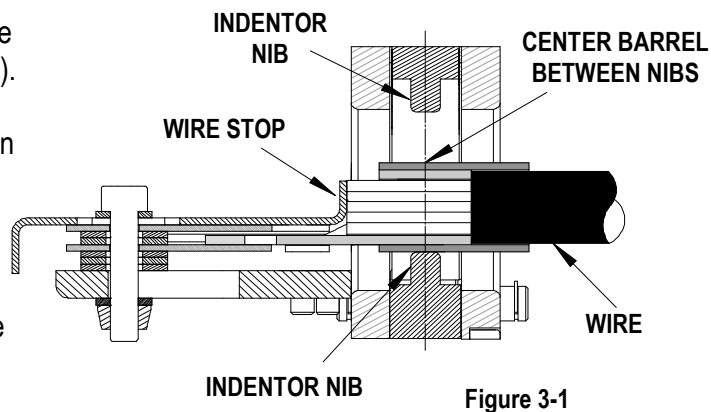

Figure 3-1
1. Adjust wire stop to position terminal barrel centered on the Indentor nibs. See Figure 3-1